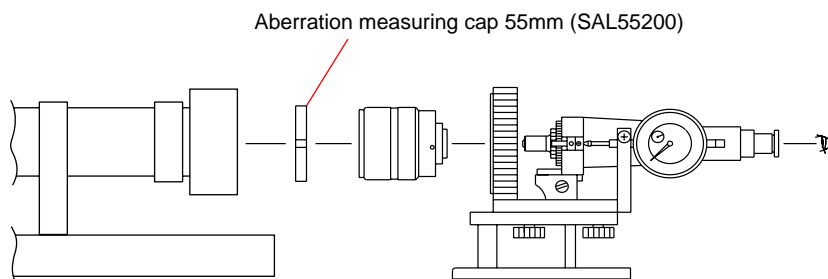

Fig.4-6-1
- 2) Set the aberration measuring cap 55mm (F8 equivalent) on the tip of lens as shown in the Fig.4-6-1, then measure the flange back ($f'F$).